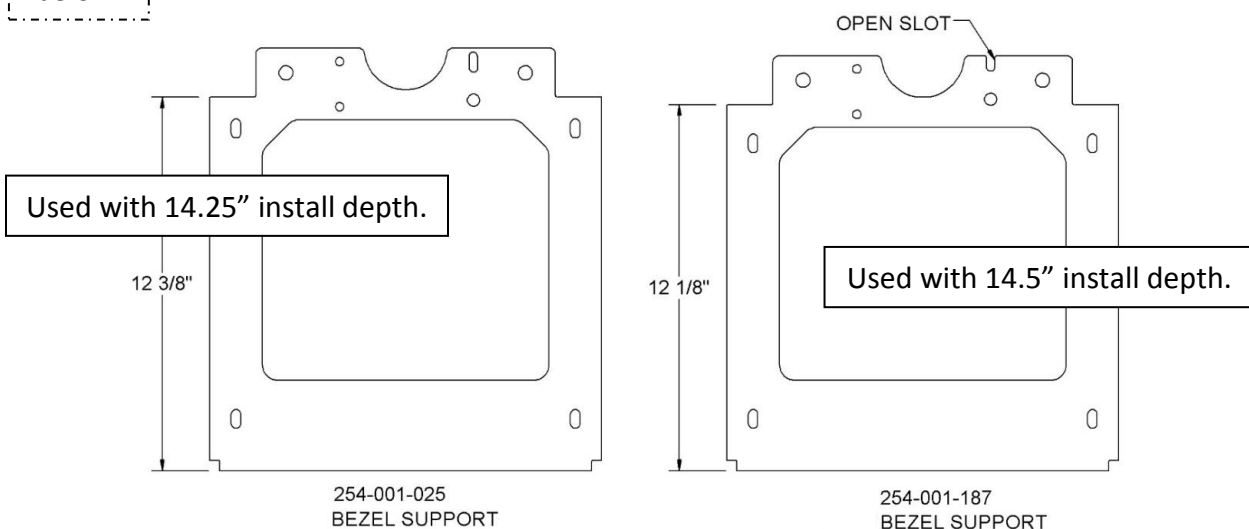

Figure 2, Standard Layout & Rack Bezel Support
See Figure 2 as a typical installation of a Harmony ball return on a 16' [4877mm] approach with the rack flush with the end of the approach. Note the differences in the possible bezel supports used. Bezel supports with an open slot at the top should be used with a ball lift installation depth of 14.5". If the bezel support does not have an open slot at the top, the lift should be installed at a depth of 14.25"
1. Position two (2) 2x6x18" boards on the subfloor as shown in Figure 2. Secure to the subfloor using a powder-actuated nail gun for concrete, or nails for wood.
2. Place shims at four (4) lift-base mounting locations to achieve an install depth of 14.5" [368mm]. Secure using nails.
3. This step will require two (2) people. Lower the lift through the opening in the approach. Slide and tilt the lift away from the ball track. Lift up the end of the ball track and then slide the lift into position.